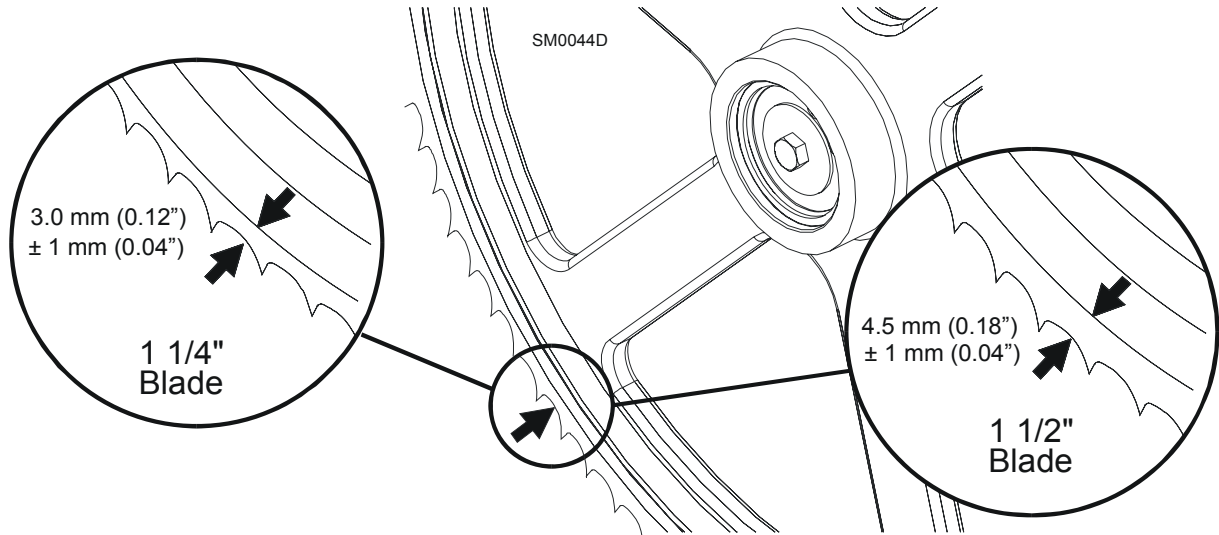

FIG. 5-3
**See Figure 5-3.** The blade wheels should be adjusted so that the gullet of 1 1/4" blades rides 3.0 mm (0.12") out from the front edge of the wheels ( $\pm 1.0$  mm [0.04"]). The gullet of 1 1/2" blades should ride 4.5 mm (0.18") from the front edge of the wheels ( $\pm 1.0$  mm [0.04"]). Do not let the teeth ride on the belt.